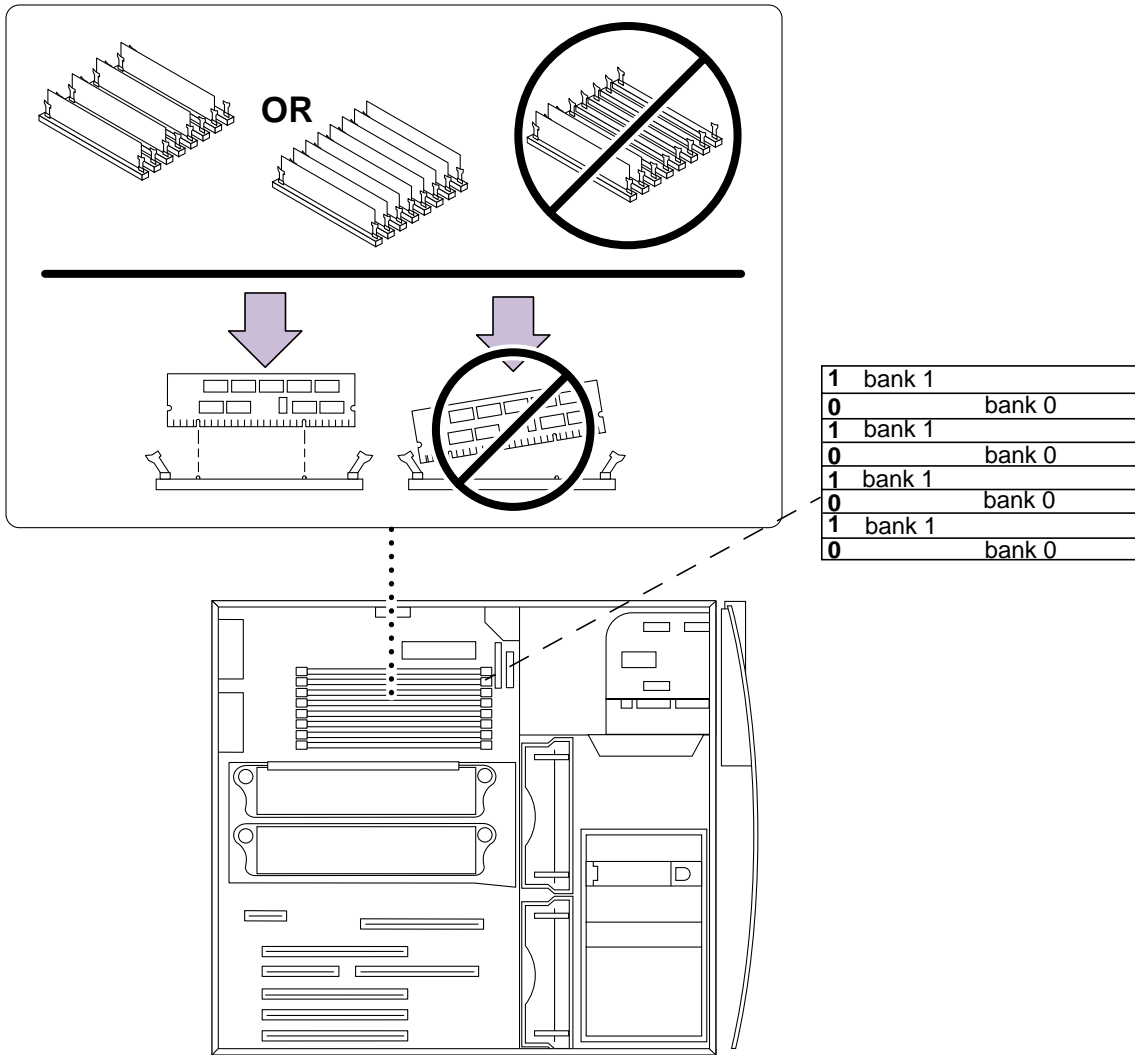

FIGURE 8-19 Removing and Replacing a DIMM
4. Press down the ejection lever at each end of the DIMM connector (FIGURE 8-19).
- The default location for DIMMs installed at the factory is the four connectors labeled “0” (FIGURE 8-19).
3. Install the DIMM as follows (FIGURE 8-19):